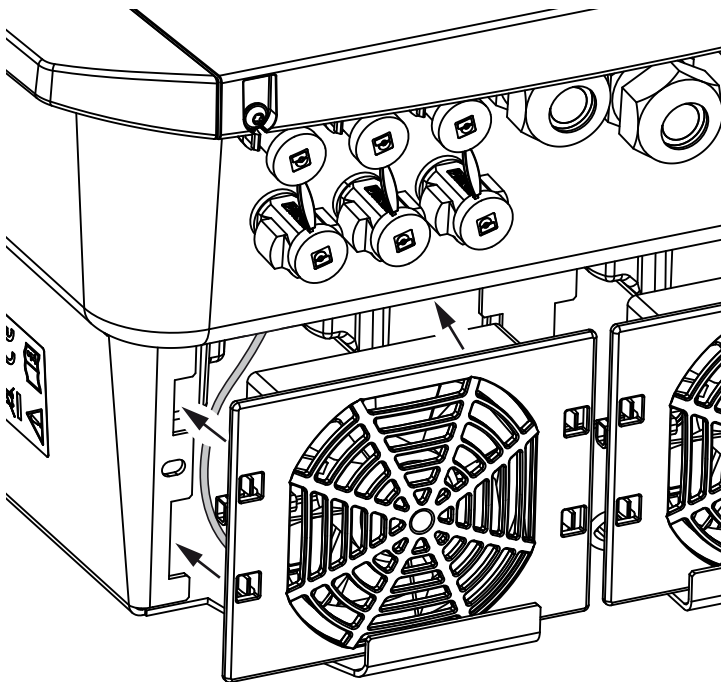

Fig. 75: Fan installation
- the fan must be correctly installed in the fan frame (air flow direction).  **Fig. 75**